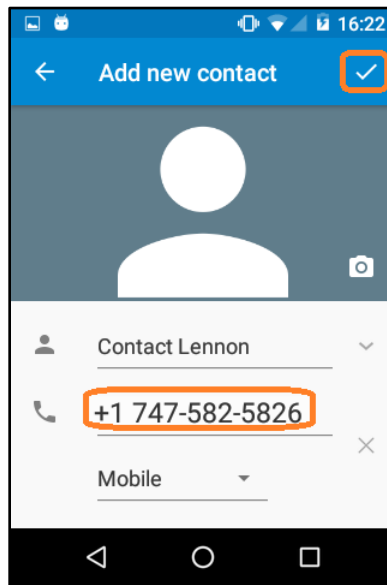
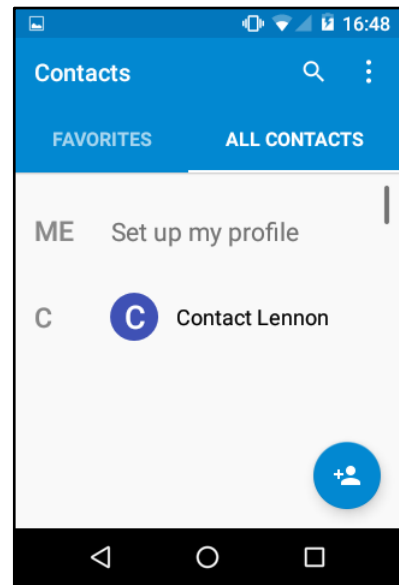

Figure 12: Contact Info
Figure 13: Contacts List
2. Press **Create a New Contact** to open the *Add new contact* screen, as shown in **Figure 12**. (If contacts already exist in the unit, tapping the *Contacts* icon will open the *Contacts* list screen.)
4. When finished entering contact information, press the check mark, as seen at the top-right of **Figure 12**, to save the contact. **Figure 13** displays the entered contact.
However, the Android Messaging App behaves just as it does in cellular devices. Messages may be sent by selecting a contact from the Android contact list, or the messaging bubble from within a contact as shown above in **Figure 13** above, or the phone number may be manually entered in the 'to' line of the message using the same naming convention for phone numbers required to make phone calls, +1 (555) 555-5555 for a commercial number in the U. S. or +1 8816 XXXX YYYY for an Iridium phone device.